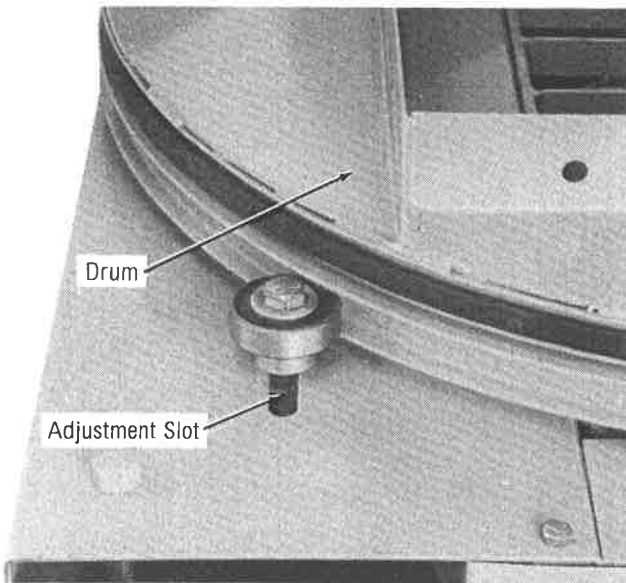

Figure 14 Drum Carrier Bearing Position
3. Check drum carrier bearings for adjustment. See Fig. 14.
2. Loosen the bolts mounting the rear drum carrier bearings. See Figure 14.